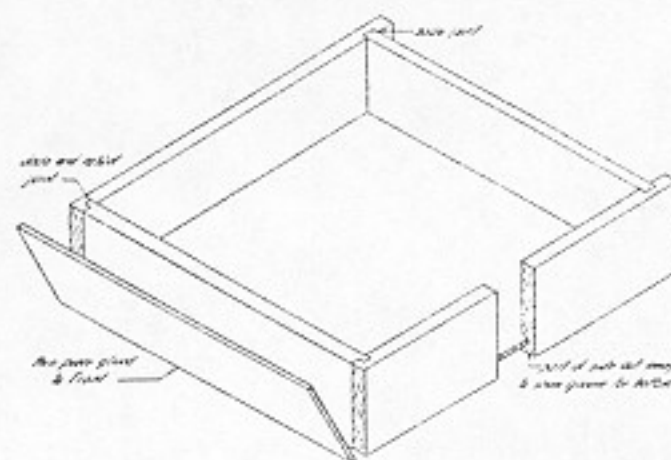

Fig. 190. Simple drawer construction, showing dado, groove, and dado-and-rabbet joints.
gluing surface. It is used principally in boxes or boxlike constructions as chests and drawers (Fig. 190).
4. The sides are joined to the front with a dado-and-rabbet joint (Art. 73), and to the back with a dado joint (Art. 69 and Fig. 190).